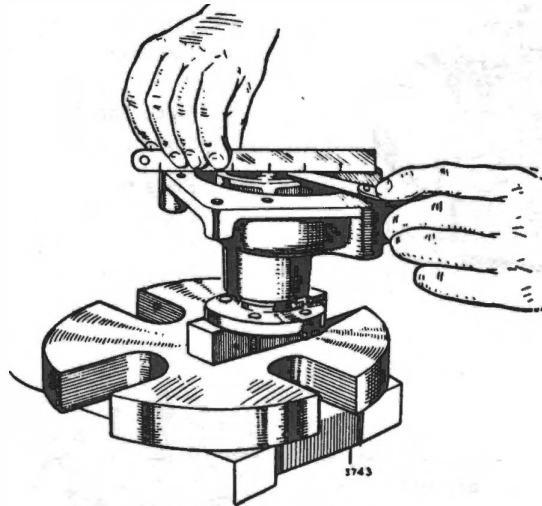

Fig. 5. Checking impellor clearance
- cover plate. This clearance can be checked with feelers and straight edge as shown in Fig. 5.